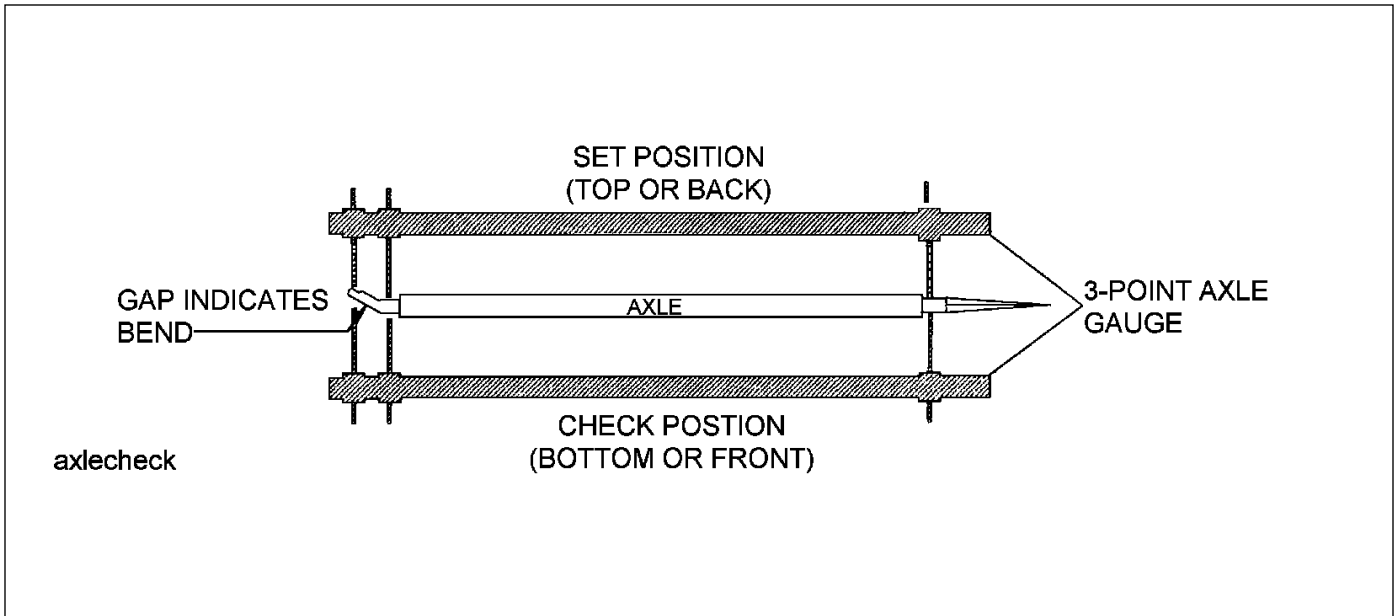

Figure 4-8: Checking Axle for Bend
2. Place a 3-point axle gauge against the front side of the axle, and adjust each axle gauge point to the axle. (Double point end against the inner and outer wheel bearing surfaces of the spindle being checked and the other point on the inner bearing surface on the other spindle.) (See Figure 4-8.)
3. Move the axle gauge and place against the back side of the axle. If either of the points of double point end fails to touch the axle surface, a bent spindle is evident. A point gap of .015" or more is considered excessive tire “toe” and the axle must be replaced (See Figure 4-8.)